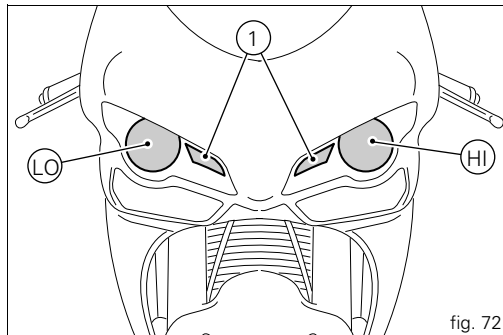

fig. 72
Before replacing a burnt-out bulb, make sure that the new bulb complies with the voltage and wattage specified in the "Wiring diagram" paragraph, page 110. Always test the new bulb before refitting any parts you have removed. Shown in fig. 72 are the locations of the low beam bulb (LO), high beam bulb (HI) and parking light bulb (1).